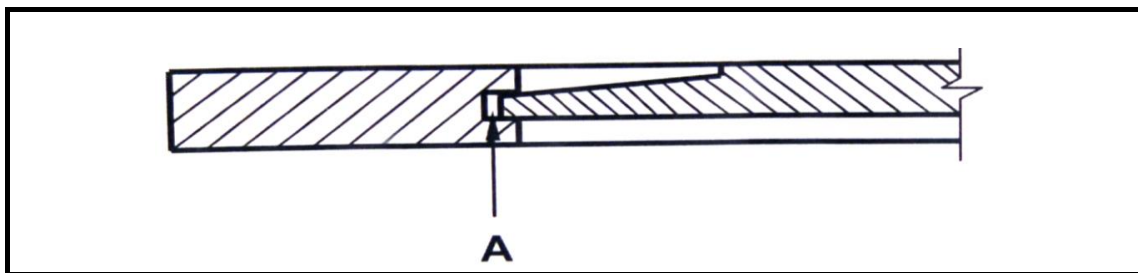

FIGURE 6.6
- 6.6 Explain the purpose of opening **A** in FIGURE 6.6 below. (1)